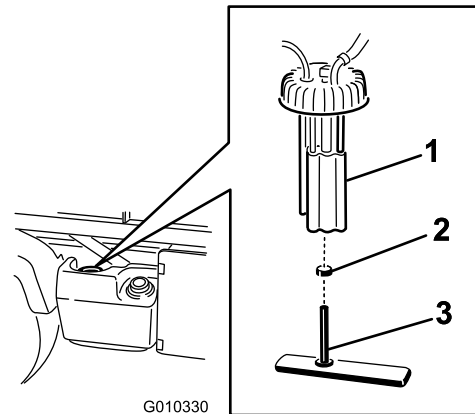

Figure 47
2. Unplug the wiring-harness connectors from the fuel pump (Figure 47).
3. Loosen the hose clamp and disconnect the fuel line from the fuel-pump cap (Figure 47).
4. Remove the fuel-pump cap from the top of the fuel tank (Figure 47).
5. Remove the fuel-pump assembly and the fuel filter from the tank (Figure 47).
7. Remove the hose from the fitting (Figure 47).